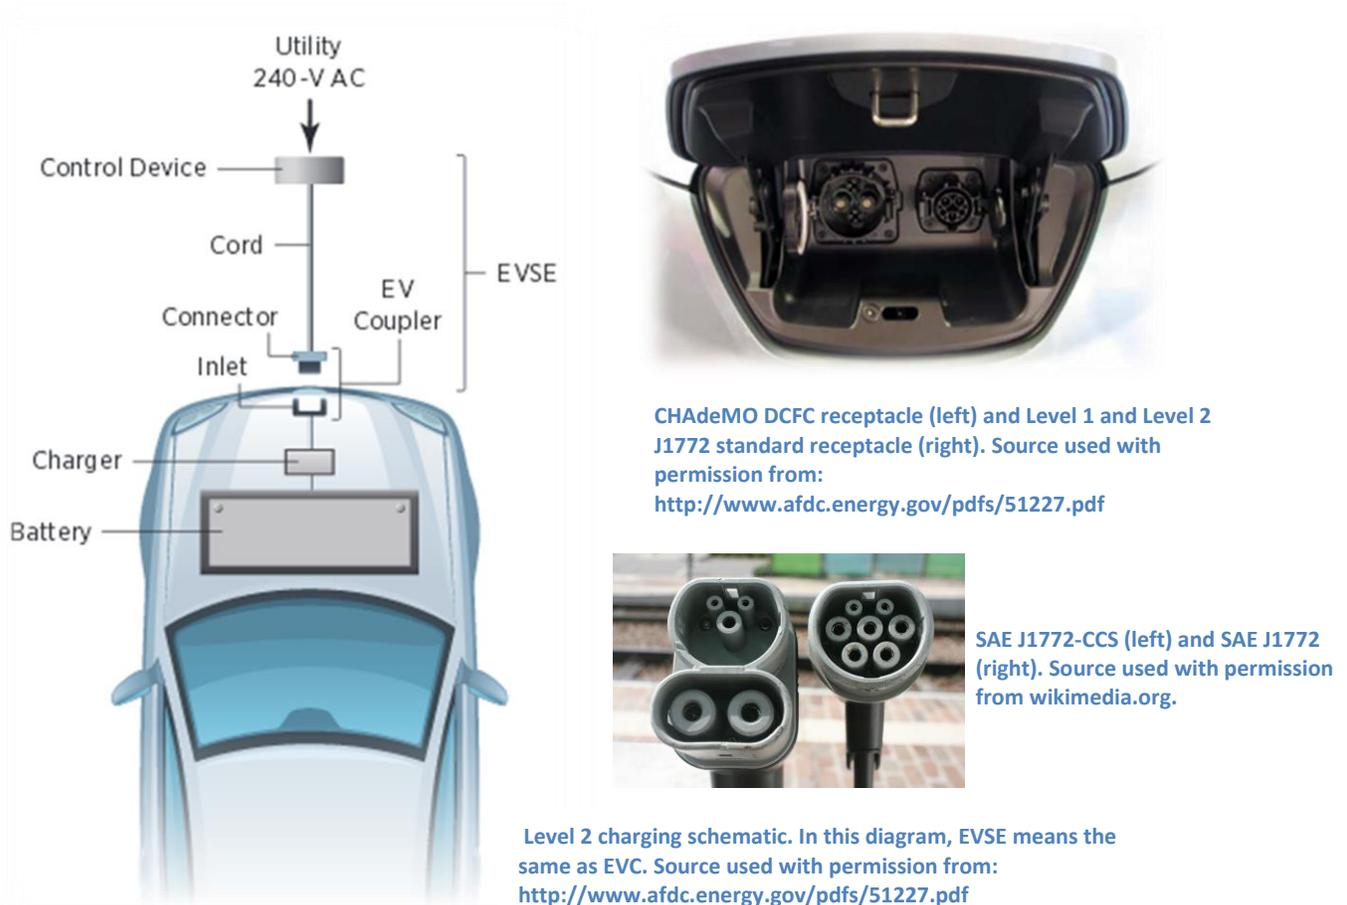

Figure 2: EVC schematic and connector inlet image
Chargers are also classified by the kind of connector on the charging cord. There are currently two competing standards sold in the United States: SAE J1772, developed by SAE International, and CHAdeMO, developed by an organization of the same name. The connector inlets can be seen in Figure 2. The SAE J1772 standard covers both AC (J1772) and DC (J1772-CCS)² charging, while the CHAdeMO connector is only used for DCFC charging. Tesla also has a proprietary connector for their charging
It is important to note that not every car will be able to take advantage of an EVC’s full power output. For example, many vehicles are not compatible with DC fast charging and therefore do not have DCFC charging ports. In addition, for all charging levels, the limiting component can either be the vehicle on-board equipment or the EVC. While all external charging devices are commonly called “chargers” (including in this guide), Level 2 chargers merely provide an electric current – the actual “charger” that manages energy flow into the battery is located inside the vehicle, as shown in Figure 2. Different vehicles allow different Level 2 charging rates depending on their internal charger. Older models and PHEVs may only be capable of about 3 kW of charging capacity, while many other PEVs can charge at approximately 7 kW and still others can charge at rates as high as 19 kW.
- *Number Charging Ports/Type*: The number of EVs that can charge simultaneously and the connector type (e.g. J1772, CHAdeMO, see Figure 2 for examples)